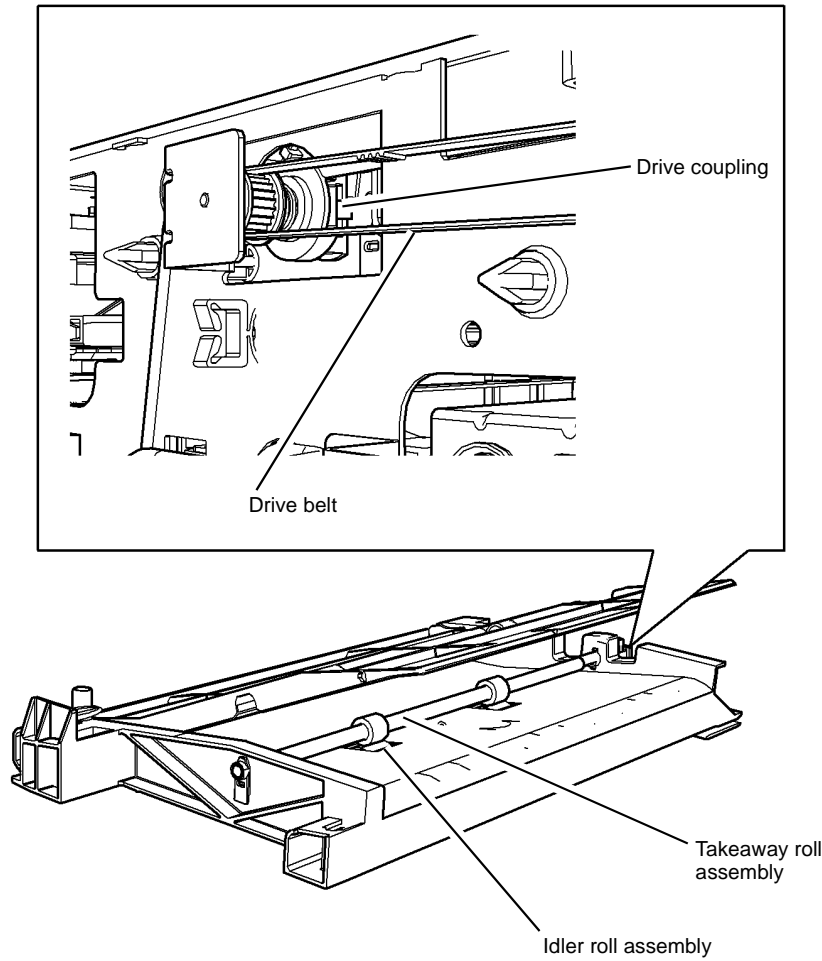

Figure 2 Component location
- Figure 2, drive belt, PL 8.36 Item 6.
- Figure 2, drive coupling, PL 8.36 Item 7.
- Figure 2, idler roll assembly, PL 8.36 Item 8.